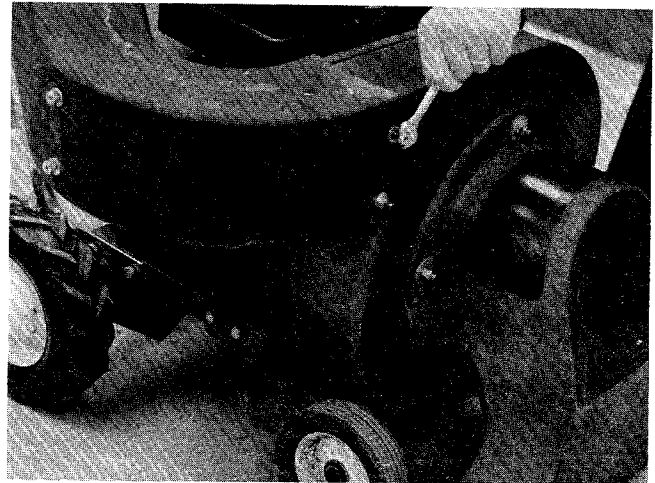

FIGURE 3.
4. Place the air duct in position on the blower housing and fasten with four (4) flat washers and hex nuts provided. See figure 3.